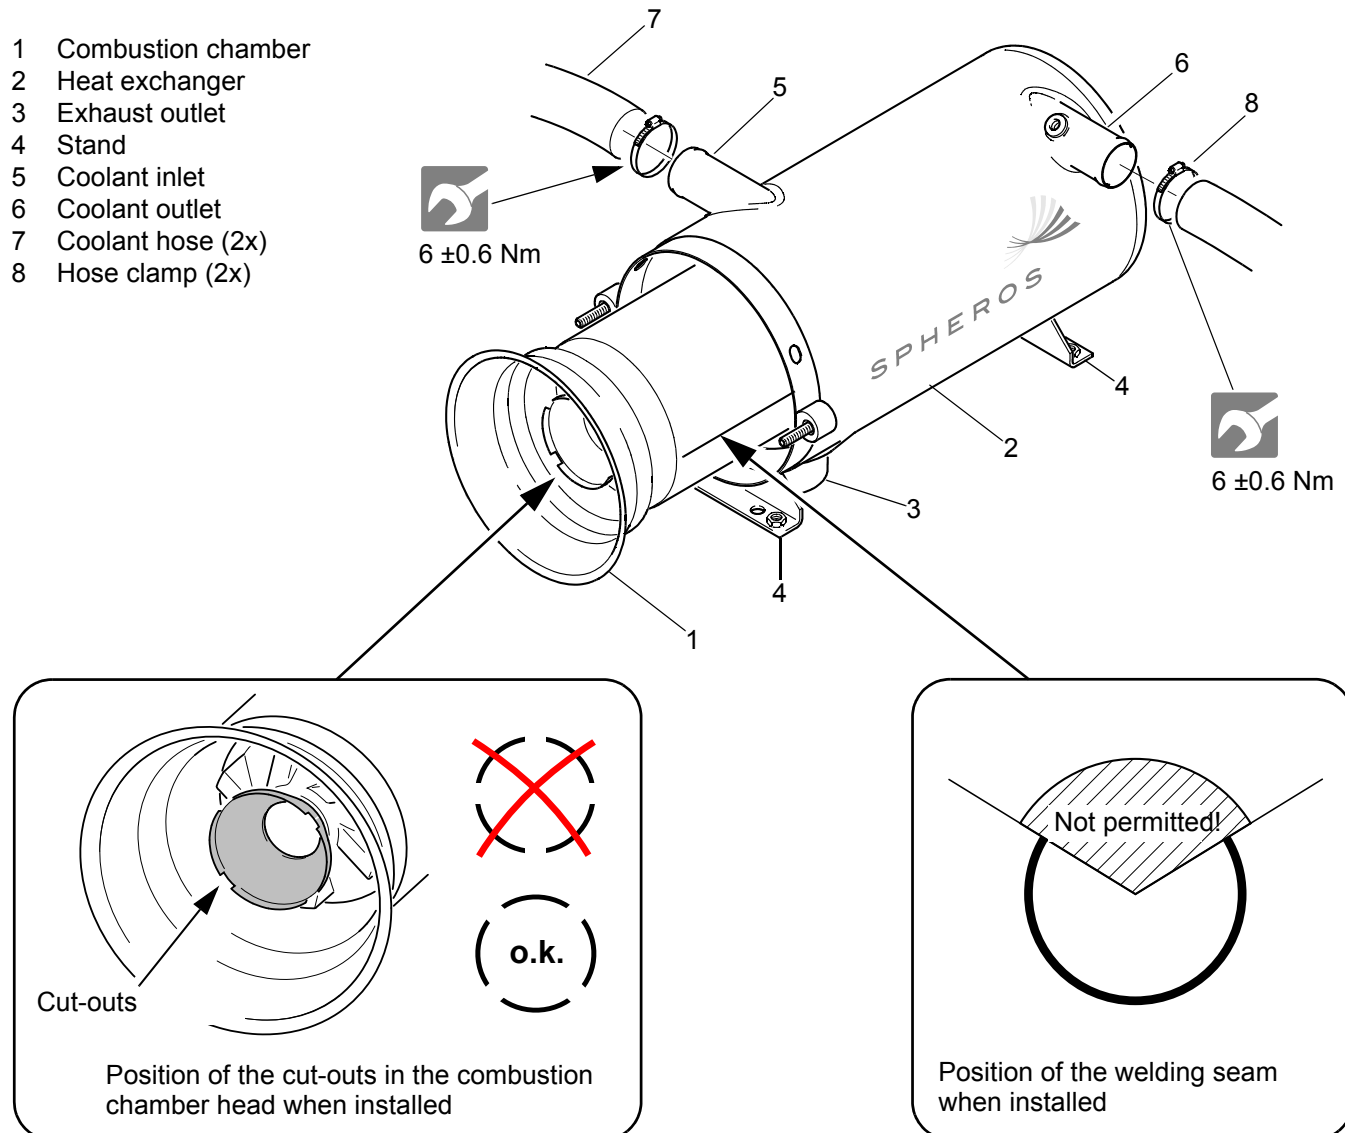

Fig. 808 Combustion chamber/heat exchanger removal/installation
2. Pull combustion chamber (1, Fig. 808) out of the heat exchanger (2).
1. Slide combustion chamber (1, Fig. 808) fully into the heat exchanger (2) against stop. Pay attention to a) the welding seam position, and
- The combustion chamber should be inserted into the heat exchanger in such a way that its welding seam is positioned between 2 and 10 o'clock (not upwards!) (Fig. 808).
- Position the cut-outs in the combustion chamber head as shown in Fig. 808.
3. Pull combustion chamber (1, Fig. 808) out of the heat exchanger (2) (see 8.11).
4. If necessary, loosen the exhaust line clamp on the exhaust outlet (3).
1. Bring heat exchanger (2, Fig. 808) into installation position and mount stand (4) using screws, nuts and washers to the vehicle according to the mounting points used.
2. If necessary, secure the exhaust line using a clamp to the exhaust outlet (3).
3. Fit coolant hoses onto the coolant inlet (5) and the coolant outlet (6) and secure with hose clamps.